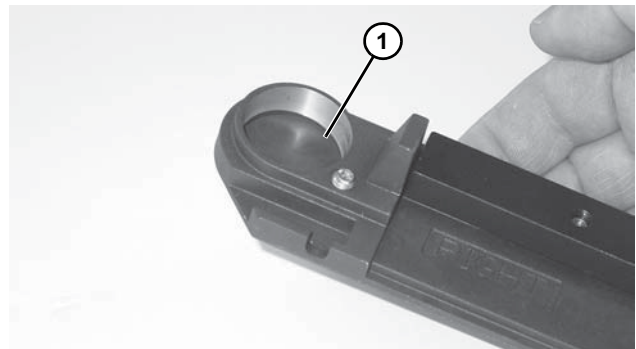

Figure 62
1. Inspect the head plates bearing seating surface (**Figure 62, item 1**). If they are worn or damaged, replace. See "Service Parts" on page 26.